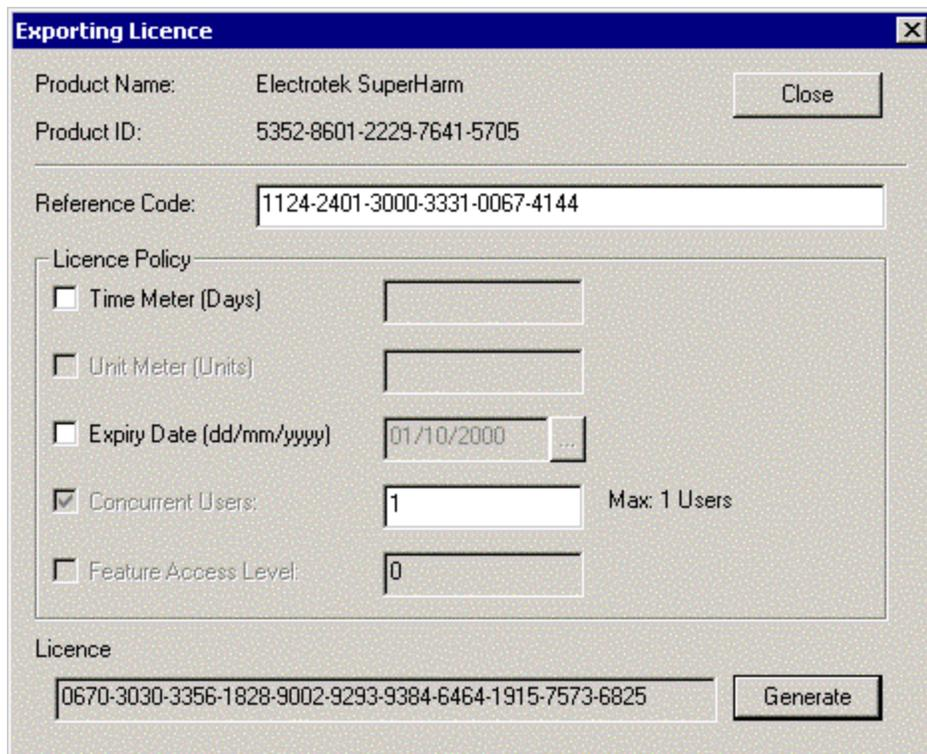

Figure i- 16: New License Key for the Second Machine
- Choose "Electrotek SuperHarm" from the Product Name combo box, and then click **Export** to obtain the dialog in Figure i- 16.
- **Warning – this step is the “point of no return”.** Click the **Generate** button and write down the license key that it gives you in Figure i- 16.